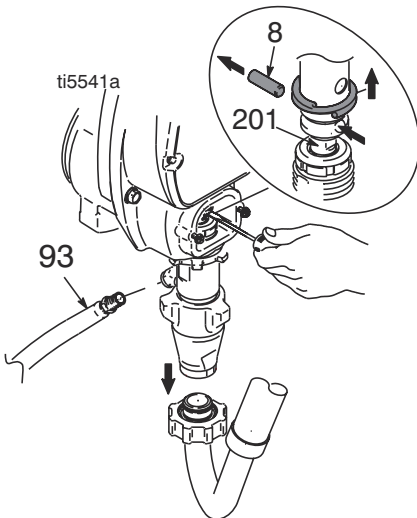

FIG. 15
3. FIG. 15. Stop pump with piston rod (201) in its lowest position.
5. FIG. 15. Remove hose (93). Use screwdriver; push retaining spring up; push out pin (8).